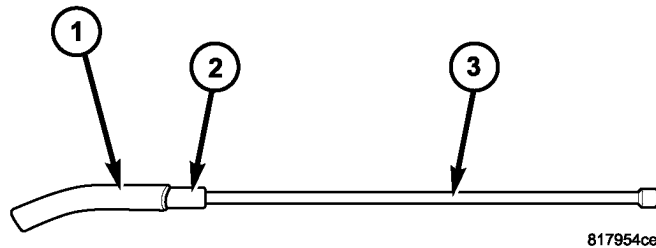

Fig. 1 FABRICATED PLUG FOR **2005 WK/WH VEHICLES**
4. On ****2005 WK/WH**** vehicles (other vehicles proceed to next step), fabricate the cooling coil drain plug as follows (Fig. 1):